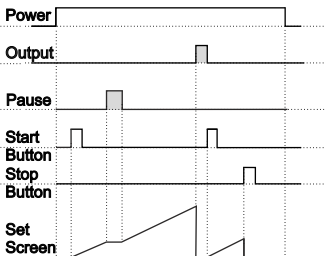

Figure 1.4
1.2.2 If Upcount  $\overline{dEct}$  =0 and  $\overline{outF}$  is  $\overline{bFF}$  the control diagram is shown in Figure 1.4